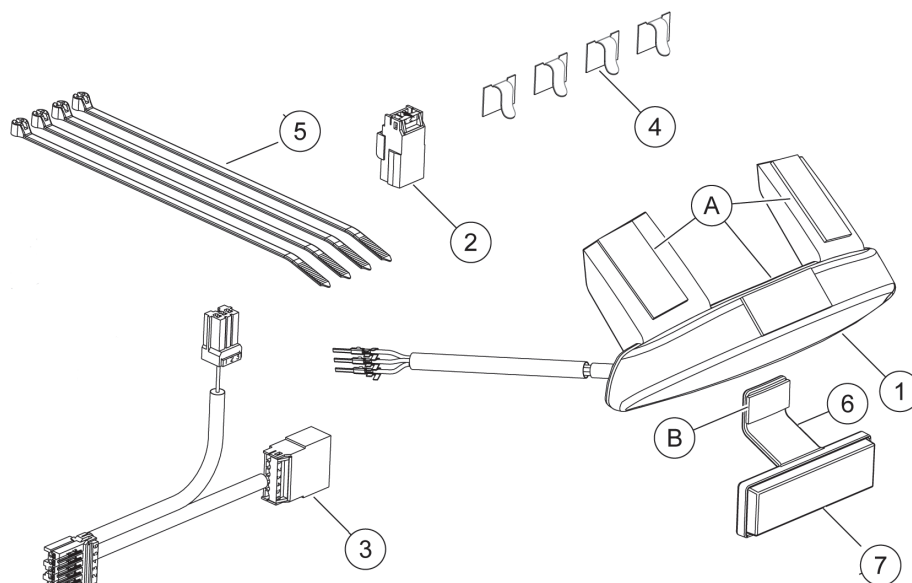

FIGURE 3. FENDER-EDGE LIGHT KIT
3. Route the light assembly wiring harness along the inner left-side of the fender to the fender pass-through hole. Secure the wire harness to the inner fender wall with wire clips (4) from the kit. Then route the harness to pass through the rear fender to the seat pan area and the interconnect harness.
4. **SEE FIGURE 3.** Insert the wires and terminals from the light assembly harness into the pin housing (2) from the kit: